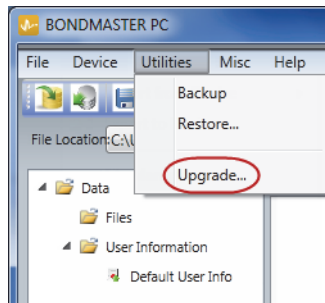

Figure 7-7 The Utilities menu
5. On the BondMaster PC **Utilities** menu, select **Upgrade** (see Figure 7-7 on page 185).